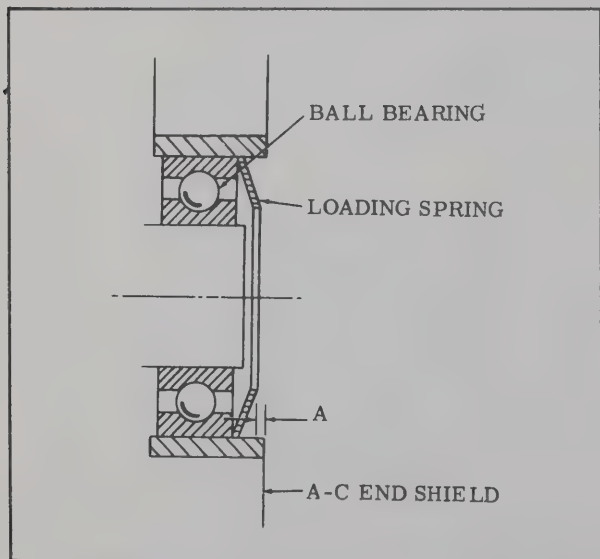

Figure 9-3. Measuring Load Spring Deflection
e. Work the AC end shield assembly (48) over the shaft of the armature (69) and on to the stator (70). Tap the shield lightly with a fiber mallet to seat.
f. Install the armature assembly (69) in the stator (70) from the AC end. Work the DC end shield (21) in position over the bearing (67) and onto the stator (70). Tap the end shield with a fiber mallet to fully seat it. Position the external bearing plate (17) over the armature shaft (69) and fasten to the DC end shield (21) with the screws (18) and washers (19 and 20).
g. Install thru bolt screws (22) and nuts (23) at the AC end of the unit. Tighten the thru bolt screws 40 to 50 inch pounds at room temperature.
h. Place the loading spring (40) on the AC end of the armature shaft and measure the "A" distance as indicated in figure 9-3. Add 0.010 to 0.015 inch to the "A" reading to obtain the required shim thickness. Remove the loading spring (40, fig. 4-6) and add shim washers (41 and 42); replace loading spring. Position shim washer (39) and bearing plate (37) and fasten in place with two screws (38).